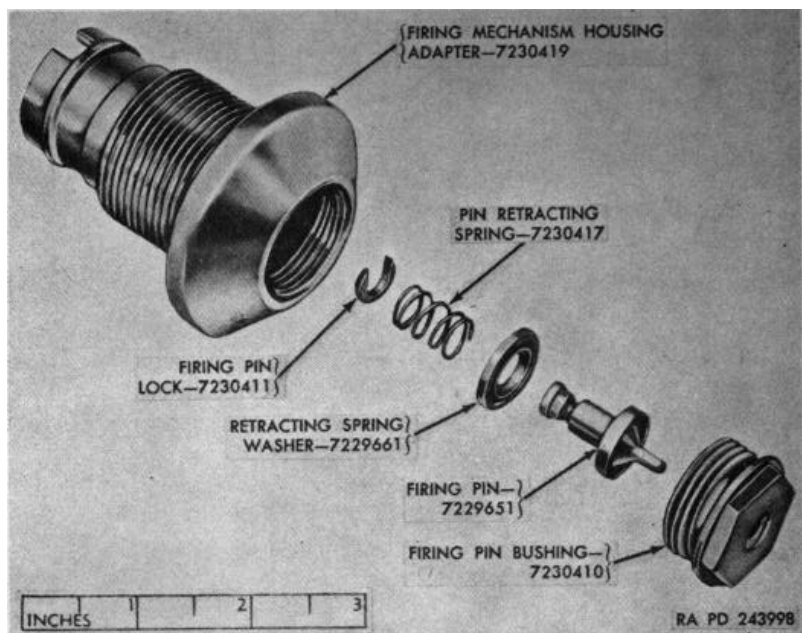

Figure 14. Firing mechanism housing adapter and related parts.
d. Unscrew the firing pin bushing from the firing mechanism housing adapter and remove the firing pin (fig. 14) with assembled parts. Remove firing pin lock by pressing it slightly against the spring and then remove the pin retracting spring and retracting spring washer from the firing pin (fig. 14).
a. Assemble firing pin unit as outlined in (1) through (4) below.
(1) Place retracting spring washer on firing pin and follow with pin retracting spring (fig. 14).
(2) Press firing pin lock over the spring until open ends of lock engage small undercut in firing pin and then press lock inward until it snaps back into position on firing pin (fig. 14).
(3) Set the firing pin with assembled parts into the firing mechanism housing adapter and screw the firing pin bushing into the firing mechanism housing adapter (fig. 14).